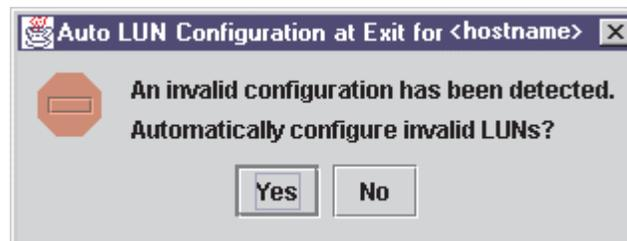

Figure 29. Auto LUN Configuration at Exit dialog window
4. Click **OK** to save the changes until you exit the Fibre Channel Port Configuration window; then, review the configuration changes (see Step 3). If FASTT MSJ detects an erroneous LUN configuration while saving the configuration, the Auto LUN Configuration at Exit for <hostname> window displays (see Figure 29).